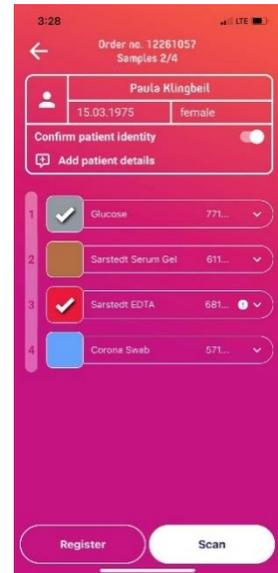

Figure 13 Multiple samples check-in
- c.** The sample information page will appear after successful scanning, showing, when available (see Figure 13):